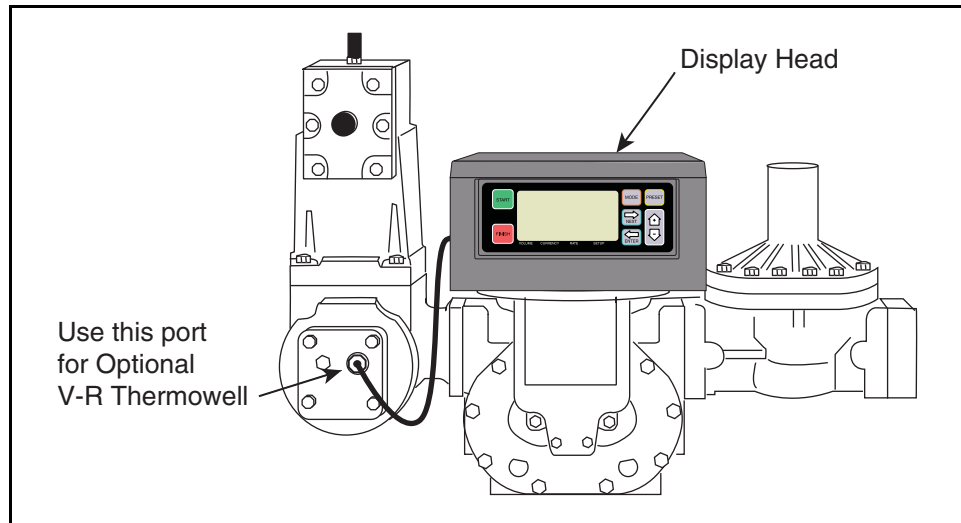

Figure 28. Example Thermowell Installation
1. Locate the thermowell in the metering system (see Figure 28).